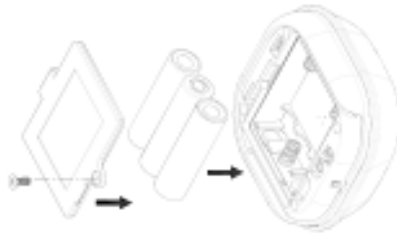

Fig.3
- 3) Insert 3 AA-size 1.5V alkaline batteries to the battery compartment, ensuring correct polarity is put (Fig.3).